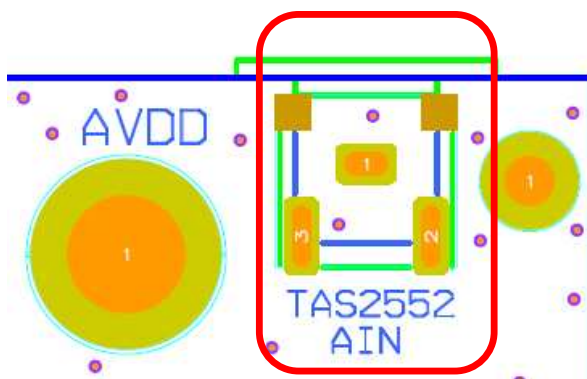

Figure 3. TAS2552EVM Analog Input Connections
2. Connect the audio source to the TAS2552-AIN RCA jack located in the top right corner of the EVM (highlighted in red in Figure 3).